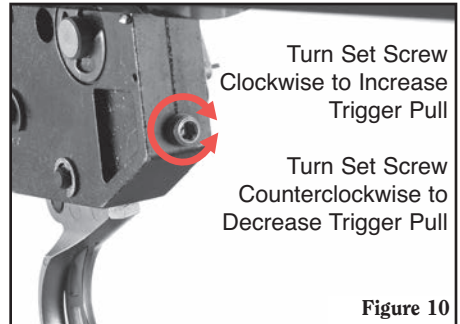

Figure 10
6. **To adjust trigger pull weight:** We suggest you familiarize yourself with the trigger's pull weight by dry-firing (ensure the magazine is removed, the chamber is empty, and the rifle remains pointed in a safe direction) the rifle after a trigger pull weight adjustment, before live ammunition is fired. The trigger pull weight on the **RUGER AMERICAN RIFLE®** can be adjusted from approximately three pounds to approximately five pounds. To access the pull weight set screw, remove the barreled action from the stock. The set screw is located on the outside, forward edge of the fire control housing. (See Figure 10.) The set screw is treated with a thread locking compound and may be difficult to move. Threading the screw in (turning clockwise) will increase the trigger pull weight, threading the screw out (turning counterclockwise) will reduce the trigger pull weight. (See Figure 10.) Approximately six full turns of the screw represents the entire range of trigger pull weight adjustability. Turning the screw beyond this amount will not further increase or decrease trigger pull weight, and turning the screw too far in may cause the trigger to bind and not function. Turning the screw too far out may prevent the barreled action from reassembling to the stock. We suggest turning the screw in no more than 1/2 revolution increments and testing the pull weight before further adjustment is attempted.